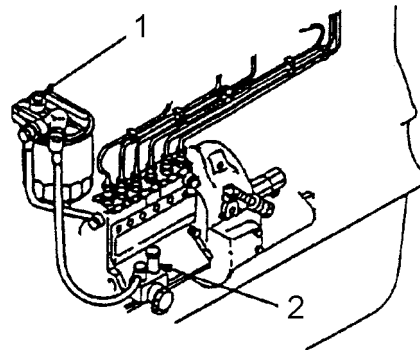

Fig. 5.3.1
- Loosen air vent plug (1) (approximately 1.5 turns).
- Unlock the priming pump moving its plug counterclockwise. (Fig 5.3.1 and 5.3.2)
- When the fuel flows free of bubbles, lock the priming pump, then tighten the plug (1) (Fig 5.3.1).